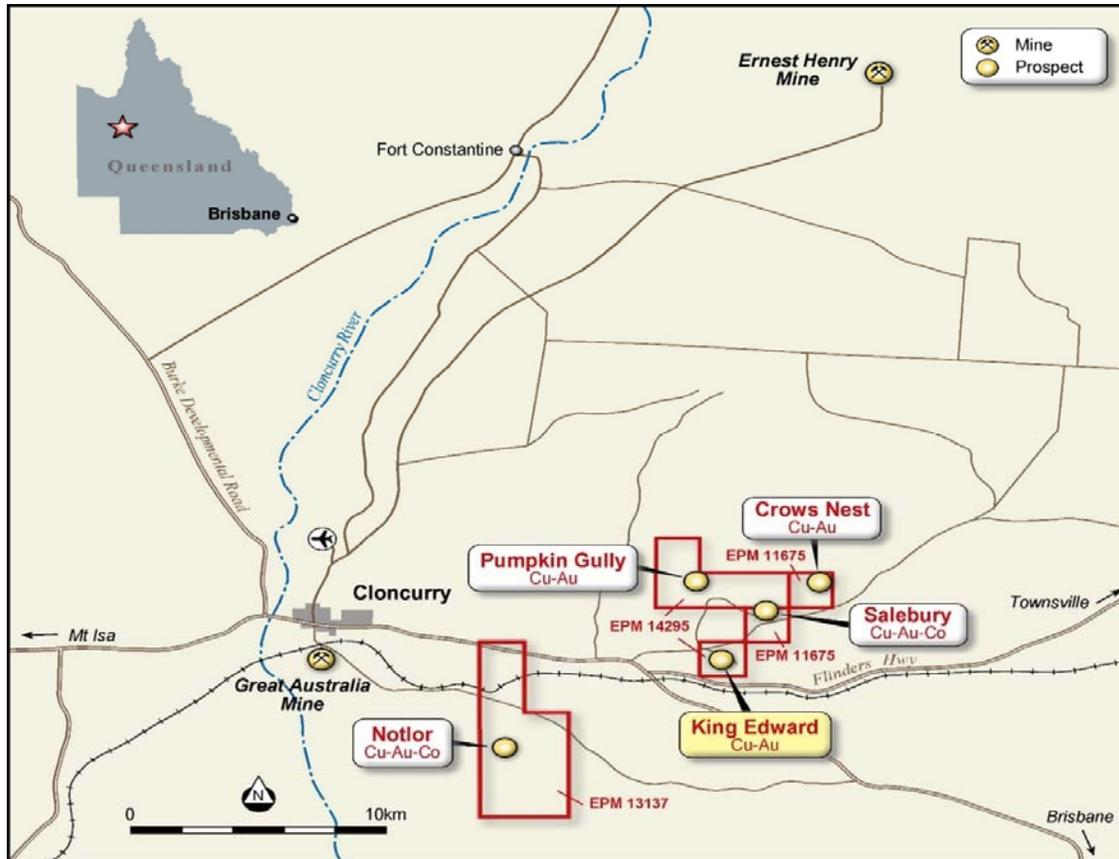

Figure 1: Cloncurry East Project: Location of EPM's
- At the King Edward prospect (see Figure 1) two holes were drilled to test adjacent structural lineaments, both of which host minor historic workings and have coincident geochemical and magnetic anomalies.